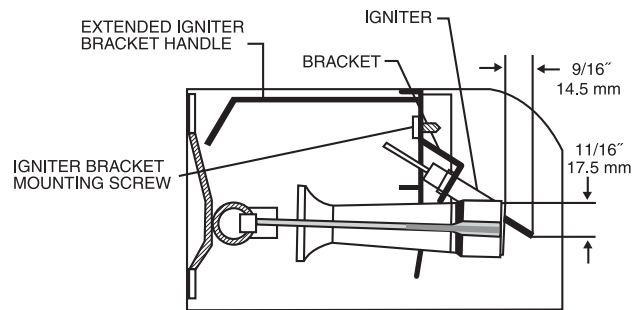
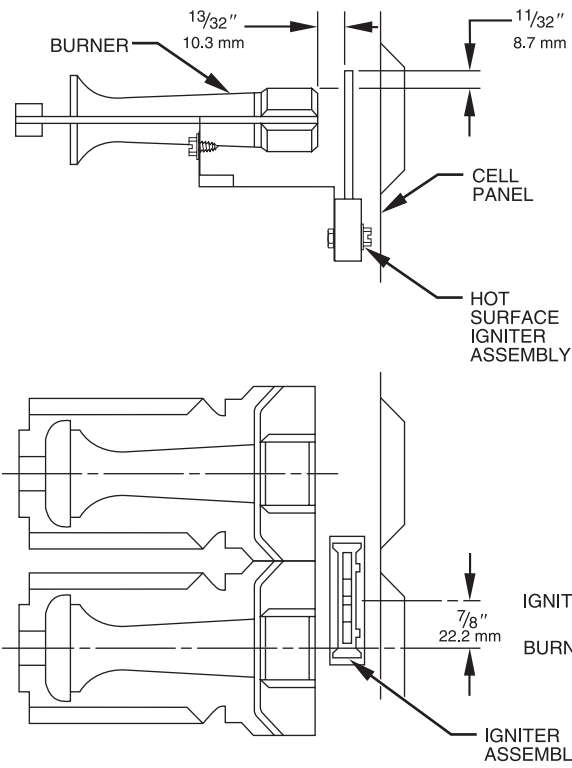

Fig. 35 - Position of Silicon Carbide Igniter
Fig. 37 - Position of Silicon Carbide Igniter
12. Reinstall manifold, orifice, and gas-valve assembly in burner box. Ensure manifold seal grommet is installed properly and burners fit over orifices. Verify Igniter to Burner alignment. For Silicon Nitride igniters, see Fig. 35 and 36. For Silicon Carbide igniters, see Fig. 37.